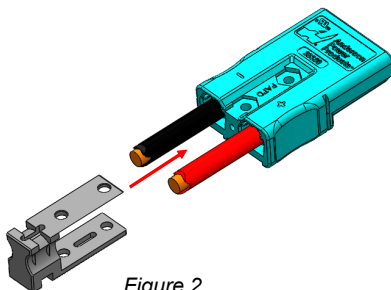

Figure 2
3. Insert Cable Clamp onto housing as shown (figure 2 and 2A).